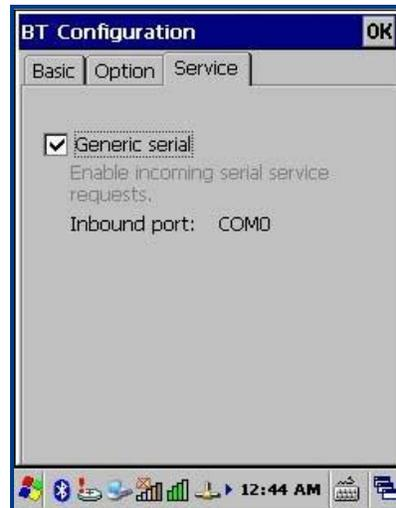

Figure 4.4: Service
C. Tap the “Service” tab and then select “Generic serial” as per your needs (Figure 4.4).